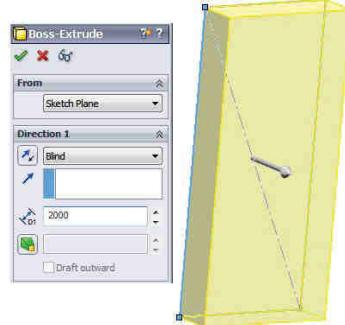

Fig. 6.3
- In caseta **Boss-Extrude** PropertyManager, sub zona **Direction 1** se vor completa, fig. 6.3:
- In the PropertyManager, under **Direction 1**, fig. 6.3: